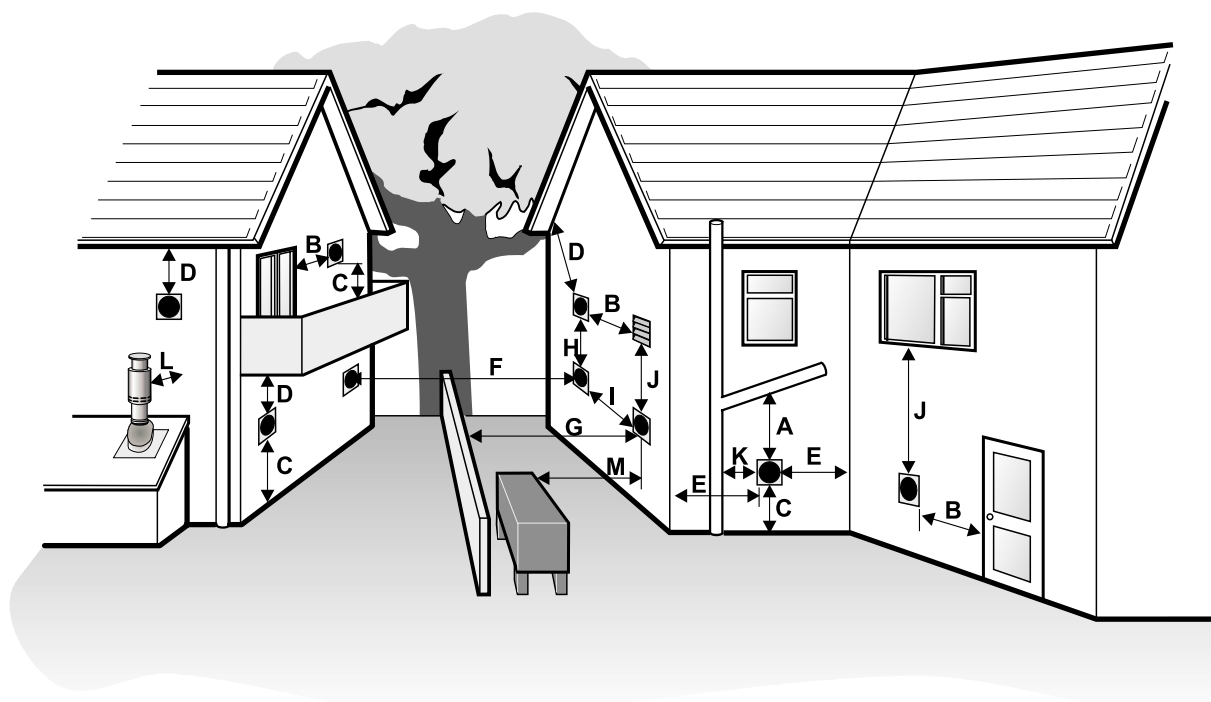

Fig. 12 - Clearances for Balanced flues
- 2 The flue terminal must be at least 600 mm from any opening into the building, and 600 mm above any vertical structure or wall less than a horizontal distance of 750 mm from the terminal. See Fig. 12.
- 2 The minimum dimensions for positioning the flue terminal are shown in Fig. 12.